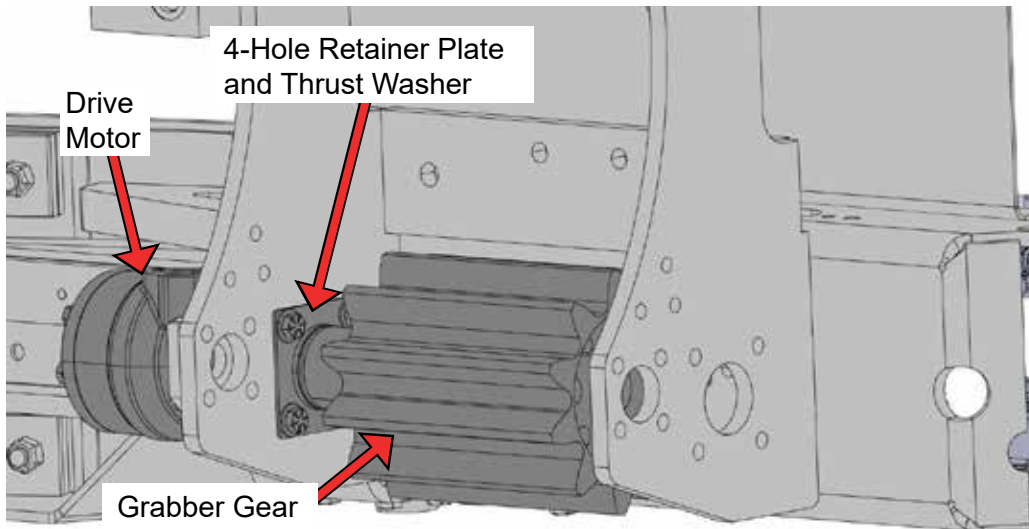

Figure 15
4. Install the grabber gear onto the drive motor spline (Figure 15).